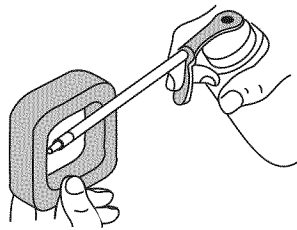

Fig. 25
- Apply enough clean SAE 30 motor oil to lightly coat the filter (Fig. 25).